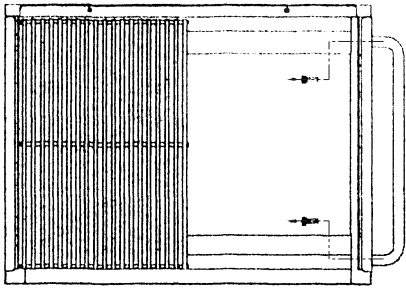

FIG. 1
1. Remove the push handle from the right side of the grill by removing the two bolts from the inside of the grill as shown in fig.1. You must remove the grids and the front heat shield to access the front bolt.